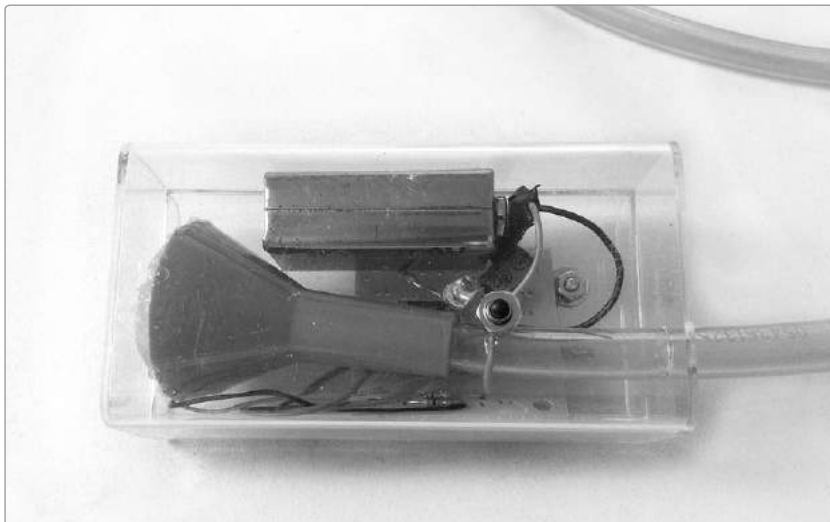

FIGURE 6-20: *The finished Droid Voicebox from a different angle, showing off our hacked-together compression driver*
Drill two 1/8-inch holes about 1/2 inch apart, one for each body contact, and a single 1/4-inch hole for the pushbutton switch. You'll almost certainly want the talk tube to come out of the top of the unit because it needs room to connect to the funnel. If you've used the 3/8-inch tubing listed in "Supplies" on page 73, then drill a 3/8-inch hole in the top of the case for the tube (you can see the tube and how it connects to the funnel in Figure 6-20).
Step 20 Once all of the glue is dry, slide the electronics into the case and close her up (see Figure 6-20). You are ready to funk out!